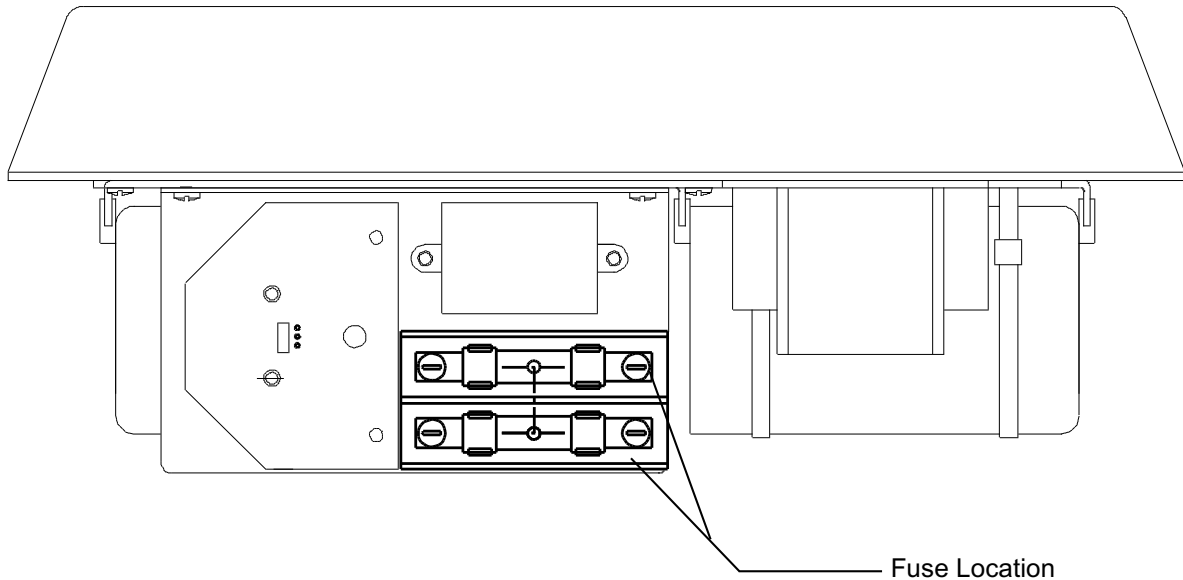
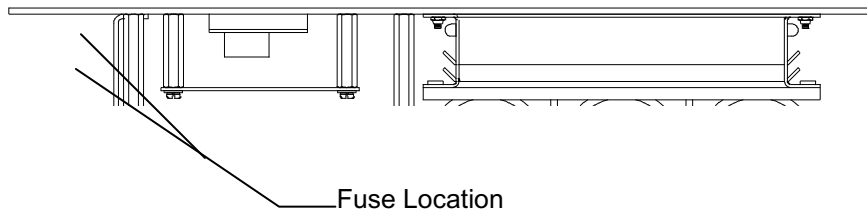

Figure 10-2: BITE 2 Transmitter Secondary Fuses (front view)
Figure 10-3: BITE 2P Transmitter Secondary Fuses (front view)
The output of the **transmitter** is double pole fused with two 15 ATM, 600 V type fuses. These secondary fuses are installed to protect the operator from possible shock and to protect the BITE 2/2P circuitry in the event of catastrophic component failure. The secondary fuses are mounted on the bottom base panel internal to the BITE 2 **transmitter** as in *Figure 10-2*. See *Figure 10-3* for the BITE 2P configuration. The fuses are coordinated for fast response to a dc inrush from the battery under test.
5. Locate the two-pole fuse block on the front plate of the transmitter chassis (see *Figure 10-2* shown earlier in this chapter). The fuses should be marked 15 ATM or 15 KLM.
5. Locate the two-pole fuse block on the front plate of the transmitter chassis (see *Figure 10-3* shown earlier in this chapter). The fuses should be marked 15 ATM or 15 KLM.